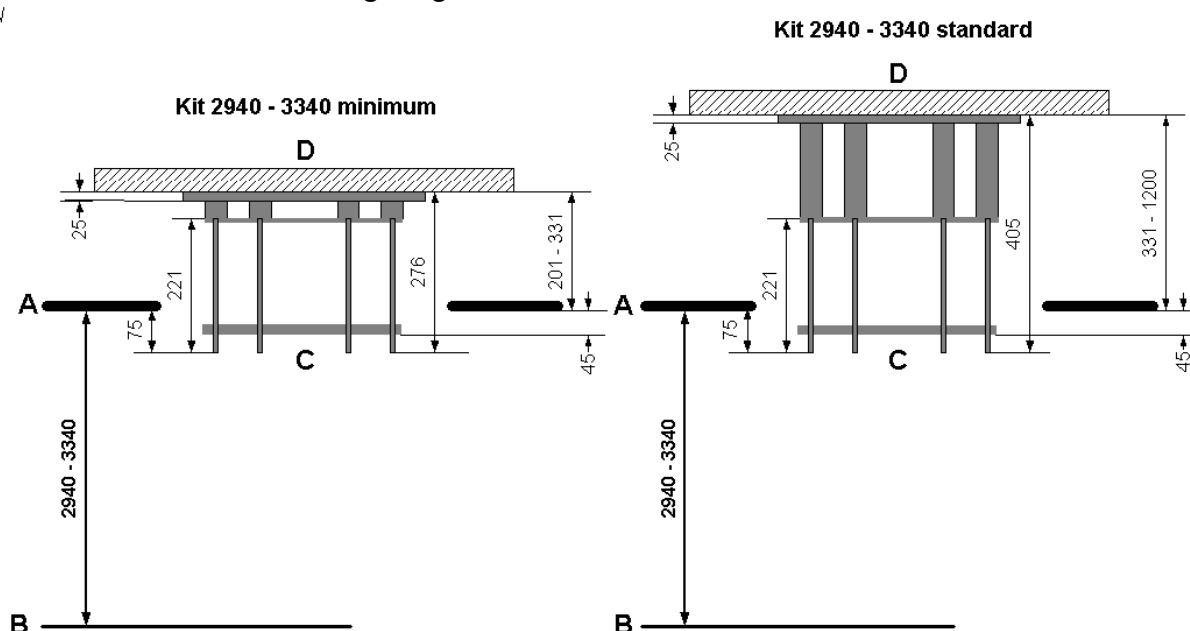
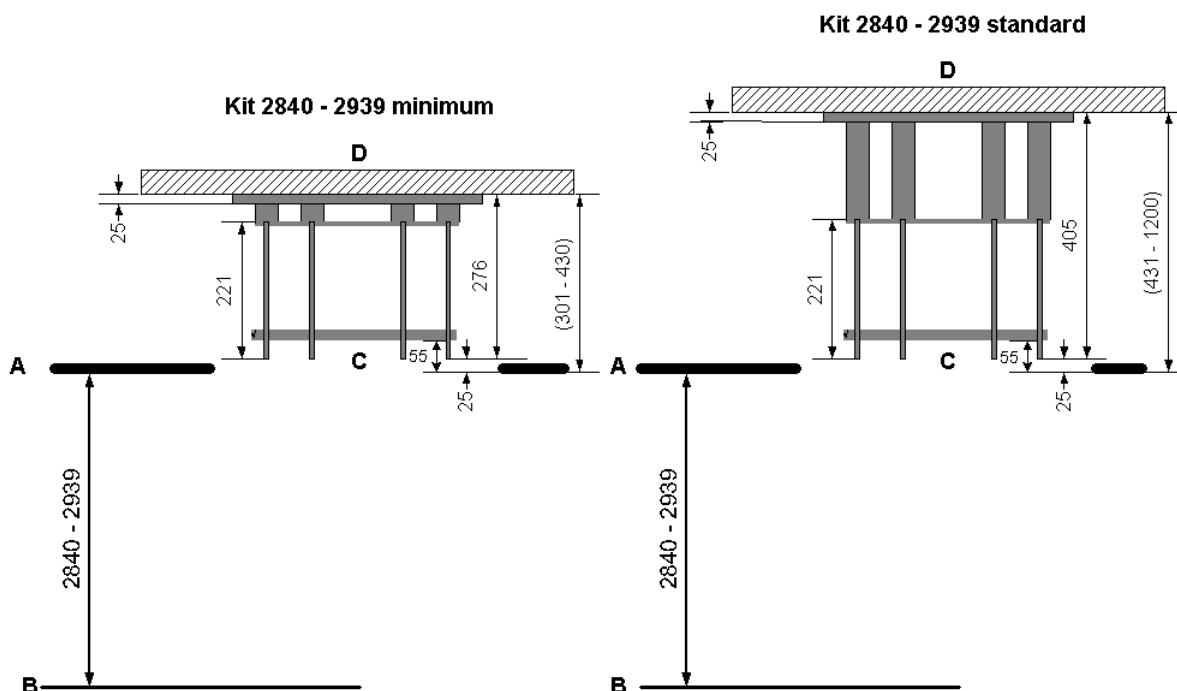

Fig. 2 Ceiling substructure
Fig. 3 Ceiling substructure
- Check the spacing of the intermediate ceiling (Fig. 2 = 75 mm or Fig. 3 = 25 mm).